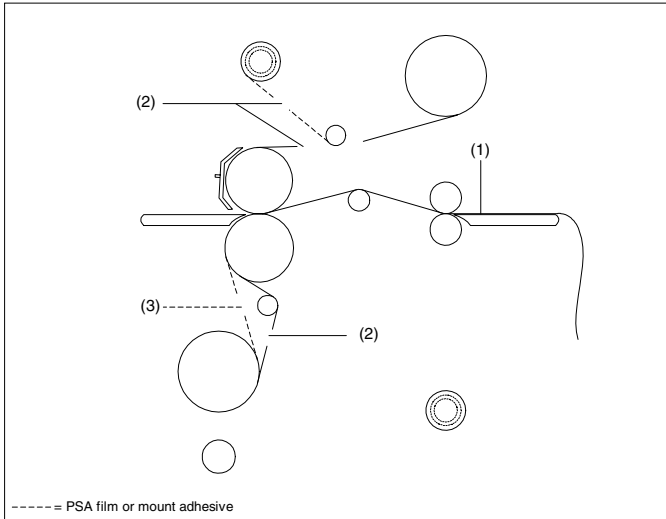

Fig. 32
1. Using the rear slit, cut (1) the output from the web (Figure 32).
2. Cut (2) remaining top film web between the idler bar and heat roller. PSA film, cut the release liner too.
3. Cut (3) the film web between the lower film supply and the idler bar (Figure 32).